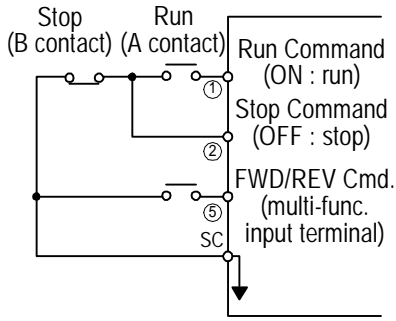

Fig. 36 3-wire mode connection diagram
Under 3-wire initialization mode (Sn-03= 8 or 10 or 12) , the multi-function input terminals ⑤~⑧ have setting “00”, the inverter will be in the 3-wire mode operation. As shown in Fig. 36, the Forward/Reverse change mode is set at the terminal ⑤.